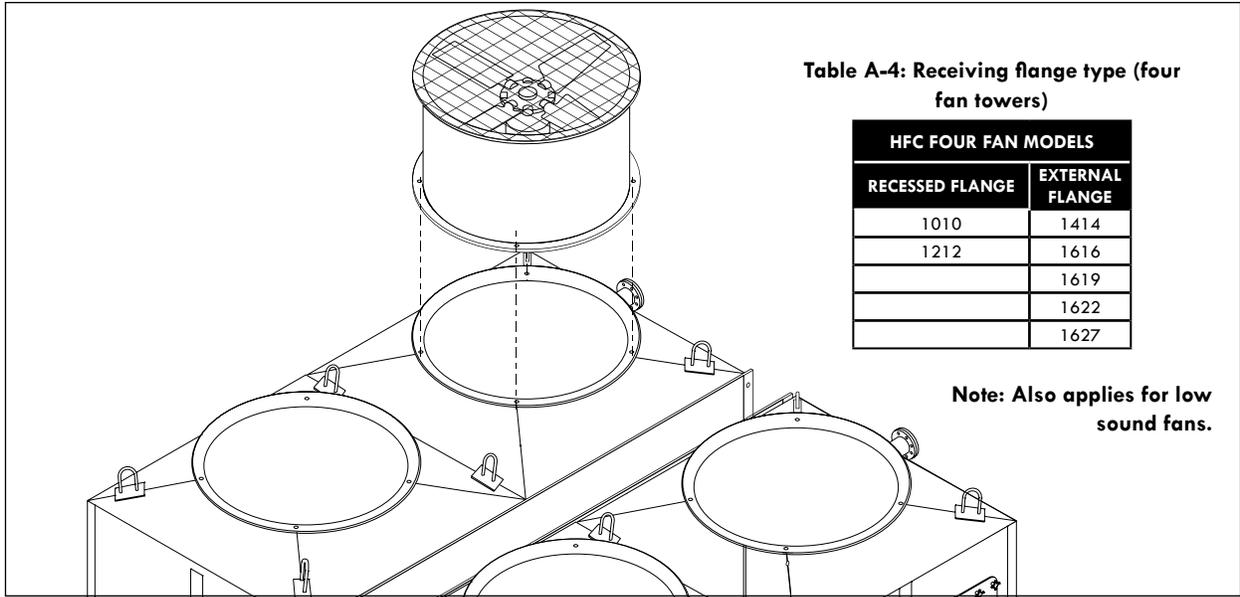

Figure A-26: Fan duct installation for a four fan tower
- M. Identify each fan duct, they are labeled with a number on the inside of the lower edge. For a correct installation, this number must match the number on the corresponding receiving flange. Place fan duct 1 on the corresponding receiving flange on top of section 1 of the tower (see Figure A-26); make sure the bolt holes and the marks inside the fan duct and receiving flange are aligned (Figure A-27). Secure it with the stainless steel nut and bolt sets supplied by REYMSA. There are two different types of receiving flanges, either one has its own assembly pieces (see Table A-4 to verify the Type of receiving flange of your tower).